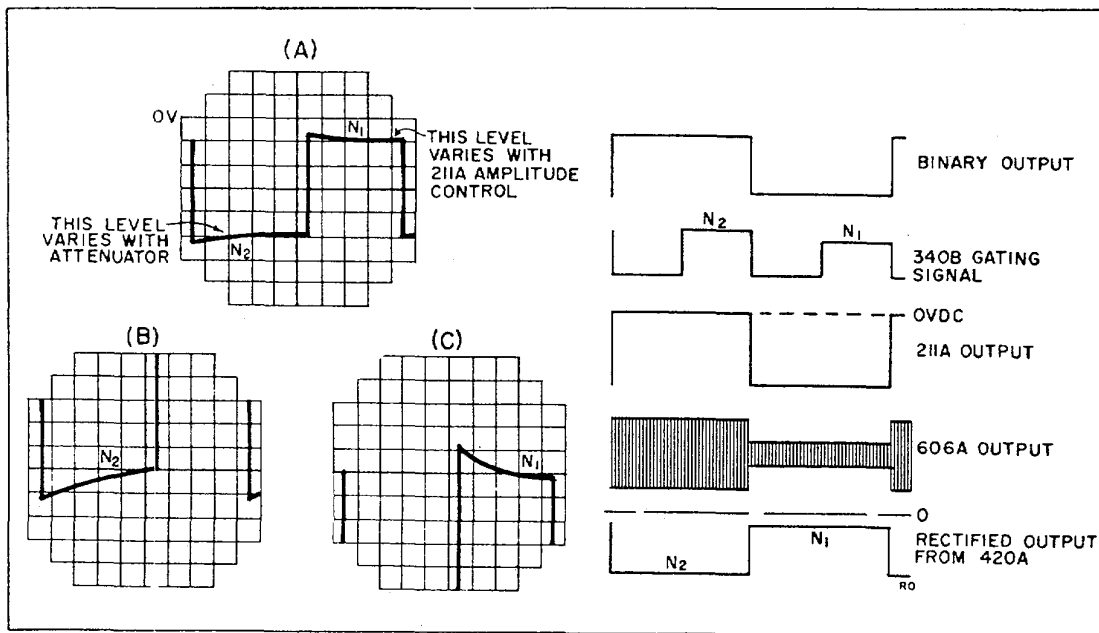

Figure 4-6. Waveforms
7) Set 606A ATTENUATOR to 0 DBM; adjust 355A for 11 db of attenuation, and note the position of N1 and N2 pulses on the oscilloscope(see Fig. 4-6).
8) Turn 130B VERT. SENSITIVITY switch to 1 MILLIVOLT/CM; adjust VERT. POS. control to align the trailing edge of N2 pulse with center line of graticule (see Figure 4-6).